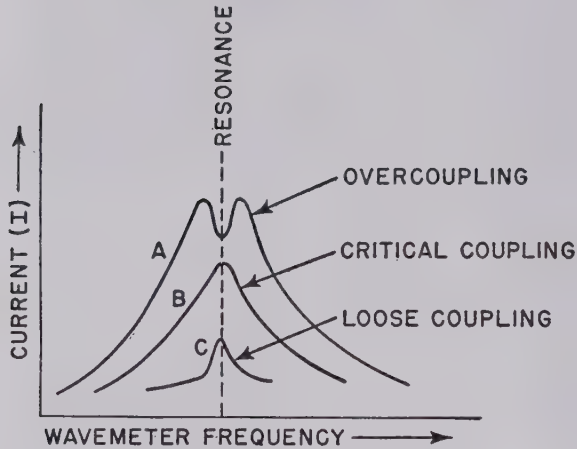

Figure 4. Coupling effects on circulatory current in absorption wavemeter.
- (2) When the wavemeter circuit is tuned to the same frequency as the unknown frequency, a maximum circulatory current flows in the wavemeter circuit. Since this circulatory current occurs at resonance and current is maximum at resonance, voltage drops appear across L , C_1 , and C_2 and the voltage drop across C_2 causes the lamp to glow. As C_1 is tuned to either side of resonance, the circulatory current becomes less and the lamp grows dimmer.
- (3) In figure 4, the circulatory current is plotted against the wavemeter frequency for various degrees of coupling. For accurate frequency measurements, the external coil of the wavemeter is